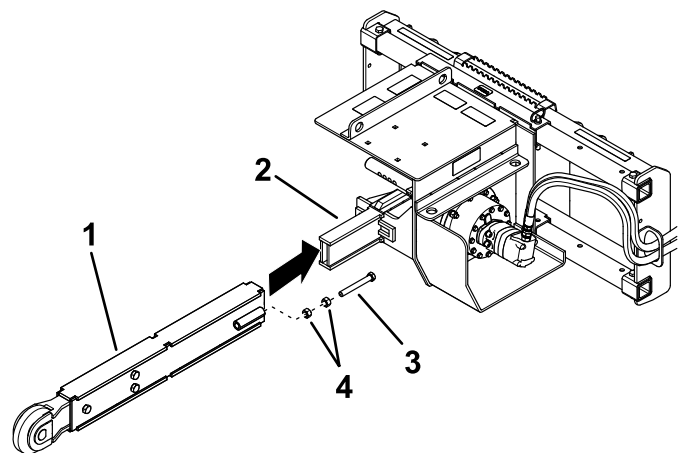

Figure 3
4. Remove the jam nuts and tensioning bolt on each side of the boom (Figure 3).
6. Insert the bolts into the tubes, with the head of the bolt and nuts facing the end to be installed on the drive head (Figure 3).
7. Slide the boom over the arm on the drive head (Figure 3).